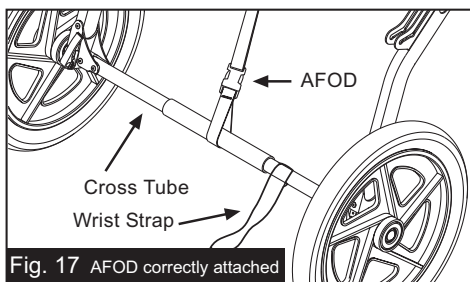

Fig. 17 AFOD correctly attached
8. AFOD: With the stroller in the fully open position (Fig. 1), attach the AFOD (Anti-Fly-Out-Device) around the cross tube with the plastic buckle (Fig. 17). It is important that the AFOD is always properly secured when using the stroller, as it is part of the child’s seat restraint system. It is, however, necessary to release the AFOD in order to fold the stroller.
14. FOLDING: Remove children from stroller. Remove the contents of the Low Boy cargo pouch. Unbuckle the AFOD strap (Fig. 17). The shock absorbers must be in position 1 (Fig. 2) before folding.